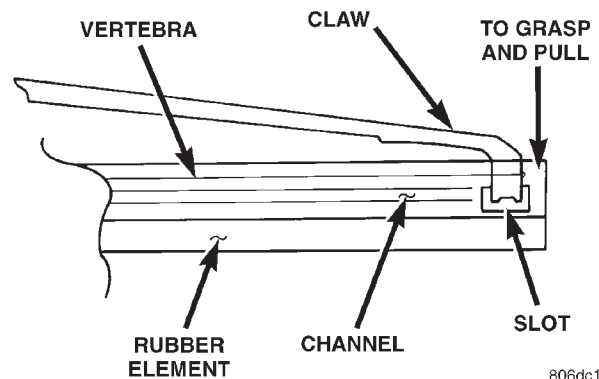

Fig. 14 Wiper Blade and Element
- (3) Remove wiping rubber element by pulling stopper of the rubber element, out of the claws of blade assemble (Fig. 14). The wiper rubber element and two vertebra will be removed.
- (1) Slide the rubber element into the blade assembly through the claws.
- (2) Slide the metal vertebra into the top element slot, with the vertebra curved to match the windshield
- (3) Ensure that the final blade claw is locked into the slot at the end of the rubber element (Fig. 14).